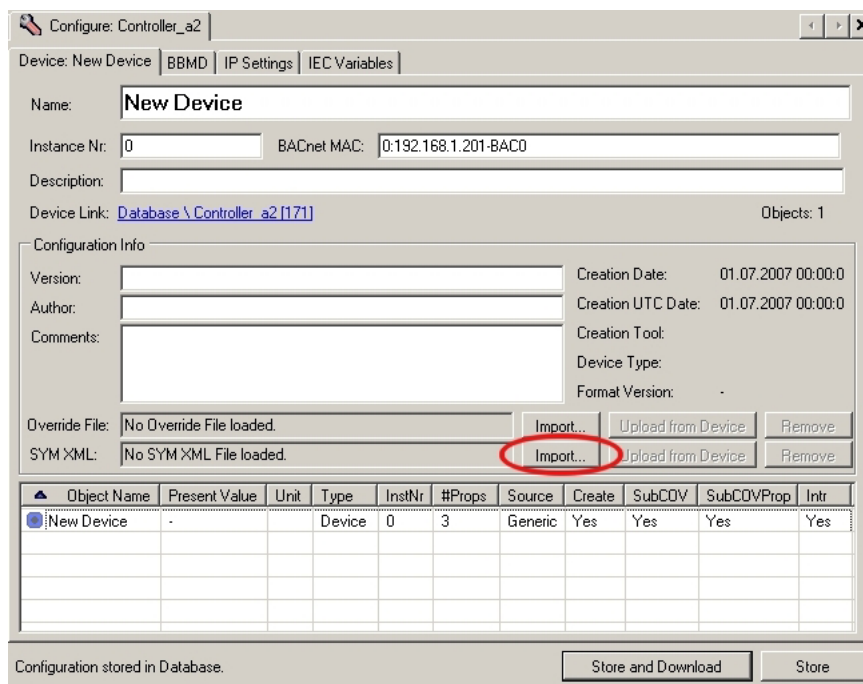

Fig. 4-32: Importing a SYM_XML file
3. In the configuration area, click beside the input field **SYM_XML** on the button **[Import]** (see Fig. 4-32).